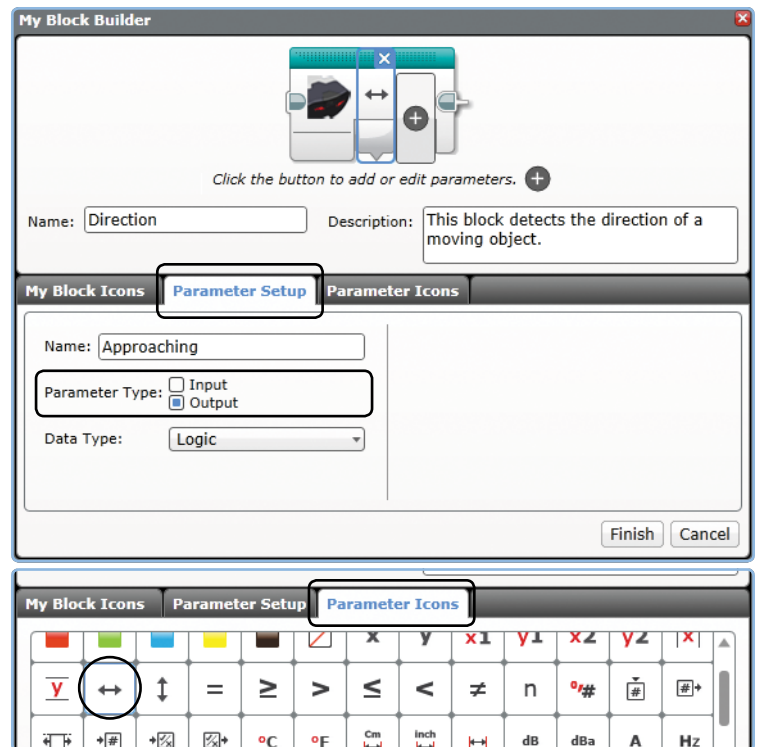

Figure 15-26: Configure the My Block and its Logic output parameter as shown.
2. Select each of the four blocks and go to **Tools ▶ My Block Builder**. Enter *Direction* as the block's name, and choose the Infrared Sensor as its icon, as shown in Figure 15-26.
3. Add one parameter, configure it as a Logic output called *Approaching*, and select an appropriate symbol, as shown in Figure 15-26. Then, click **Finish**.